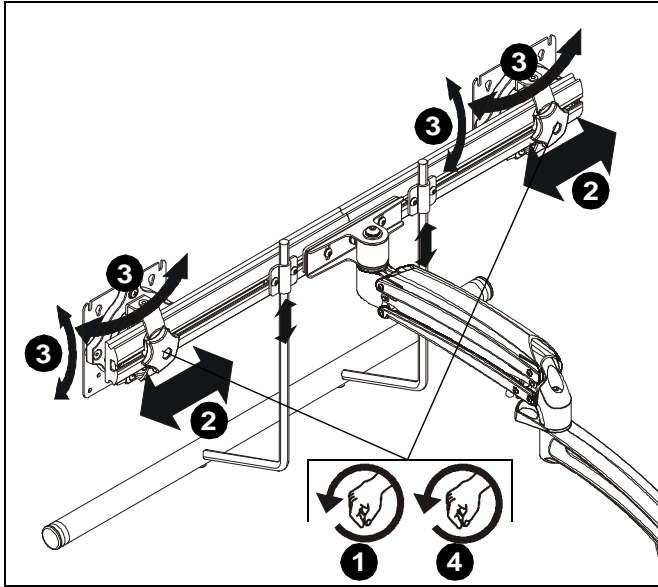

Figure 22
1. Loosen knobs securing faceplates to array. (See Figure 22)
2. Slide displays laterally on array to adjust lateral shift. (See Figure 22)
3. Adjust pitch and pivot position as desired. (See Figure 22)
4. Tighten knobs to secure faceplates in position. (See Figure 22)